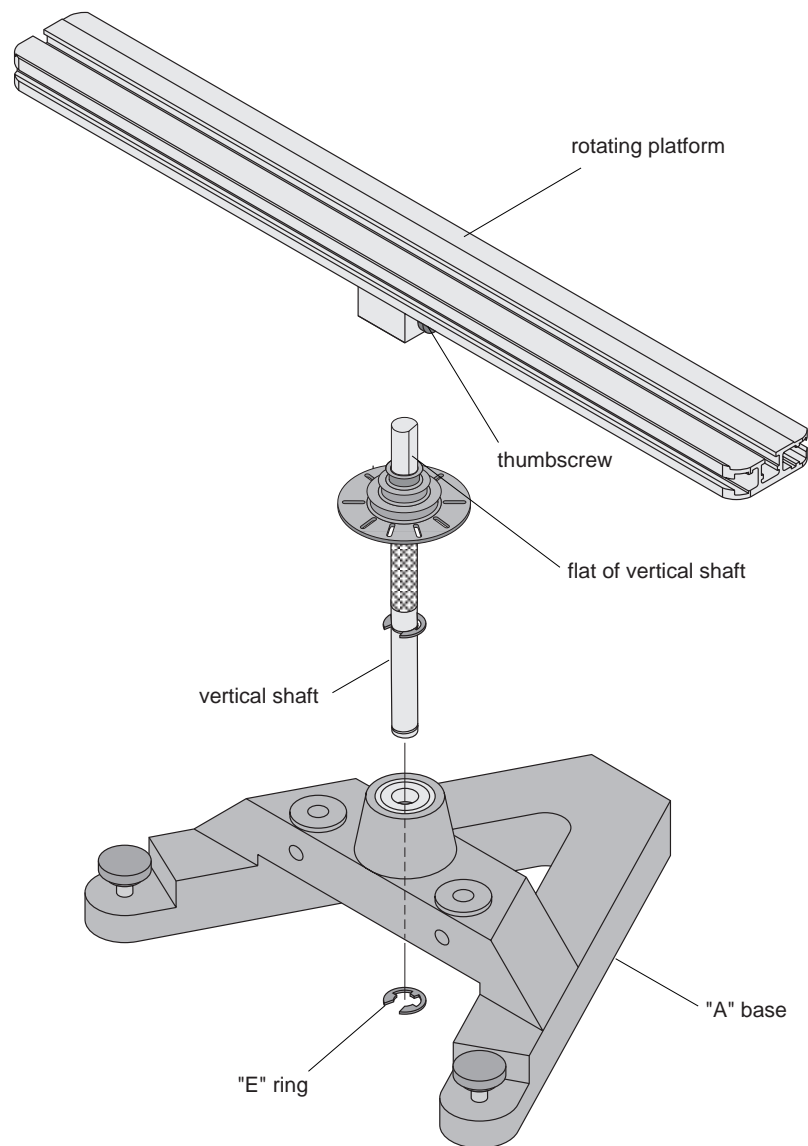

Figure 1: Attaching the Vertical Shaft to the Base and Rotating Platform Assembly
- ① Insert the cylindrical end of the shaft into the bearings on the top-side of the A-shaped iron base. Secure the shaft in place by inserting the "E" ring in the slot at the bottom of the shaft. See Figure 1.
- ② Mount the track to the shaft and tighten the thumb screw against the flat side of the "D" on the shaft. See Figure 1.